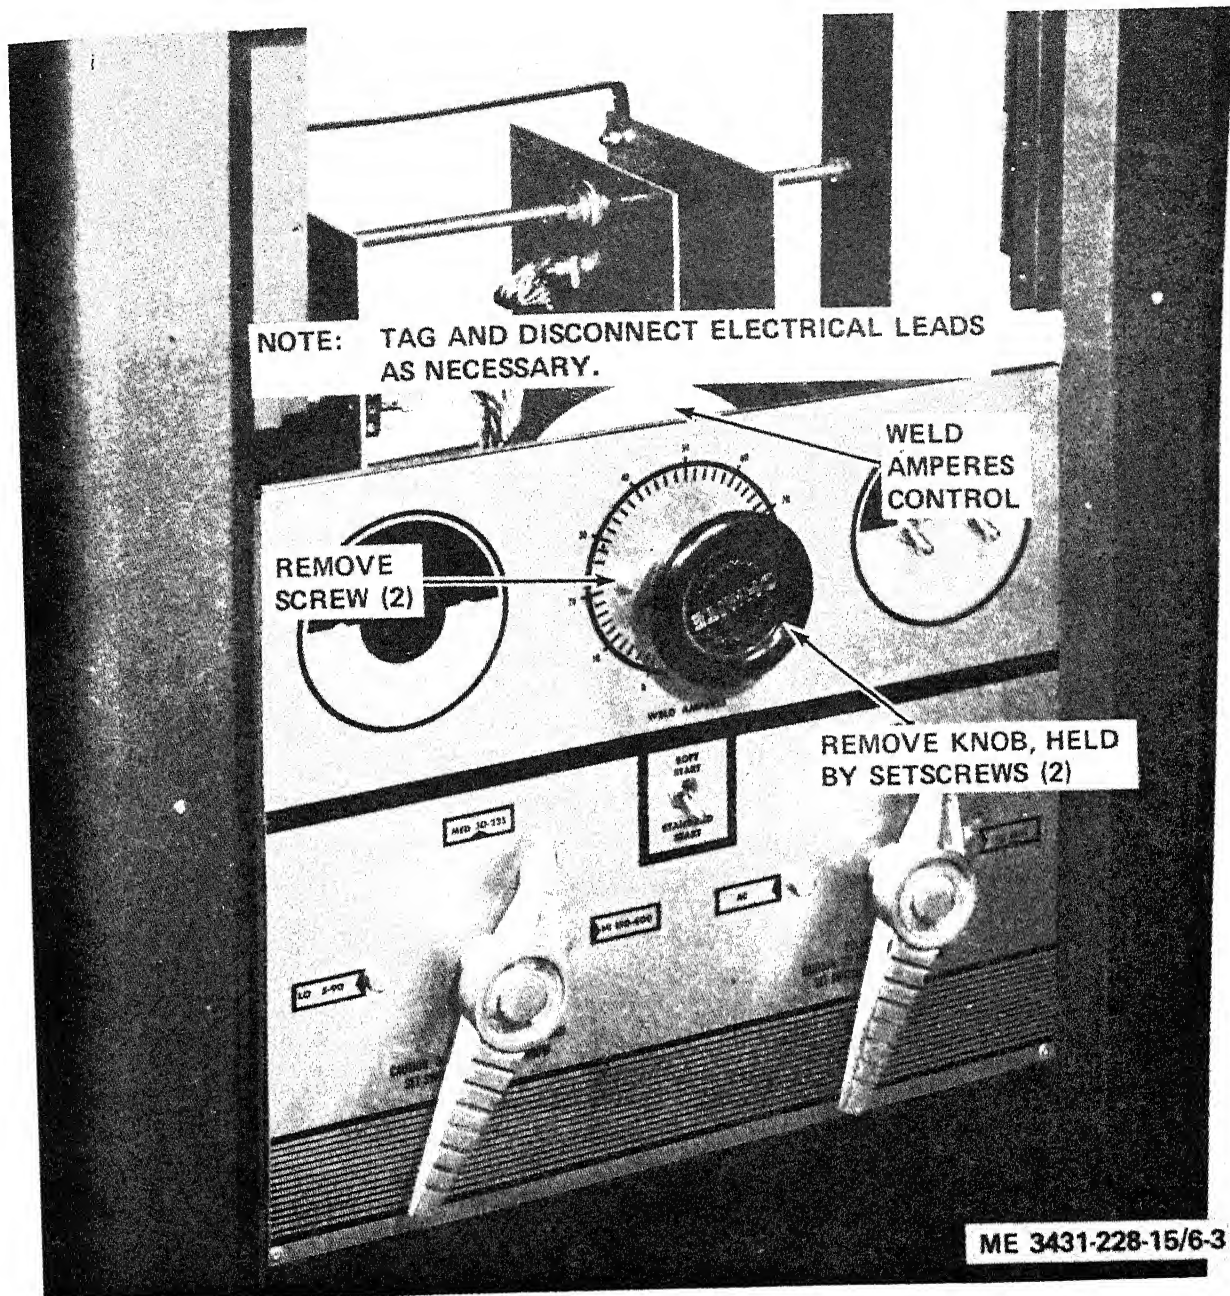

Figure 6-3. Weld amperes control rheostat, removal and installation.
- (1) Disconnect ac power from the welding machine.
- (2) Remove the timer and high frequency drawer (para 3-19).
- (3) Remove the top and housing from the welding machine (para 3-20).
- (4) Refer to figure 6-3 and remove the WELD AMPERES control rheostat from the rear of the panel.
- (1) Refer to figure 6-3 and install the WELD AMPERES control rheostat.
- (2) Install the screws along the bottom edge of the front panel.
- (3) Install the top and housing (para 3-20).
- (4) Install the timer and high frequency drawer (para 3-19).